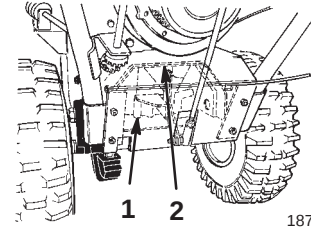

Figure 36
9. Loosen the four flange-head bolts (two on each side) that secure the transmission frame to the engine frame (Figs. 36 and 37).